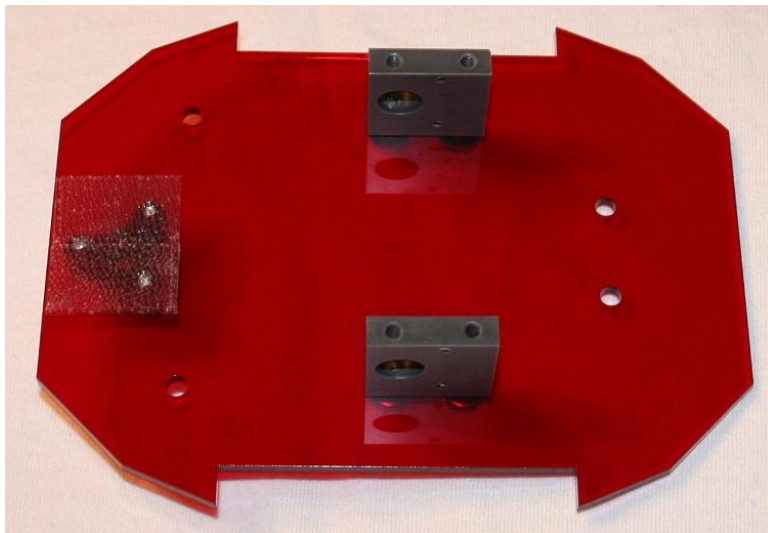

FIG 22. Assemble Motor Mounts to Base Plate.
Refer to figure 22 below for how to assemble motor mounts to base plate using (4) 6-32x1/2" machine screws and flat washers. ***Do not*** over-tighten screws or you will crack the base plate plastic.